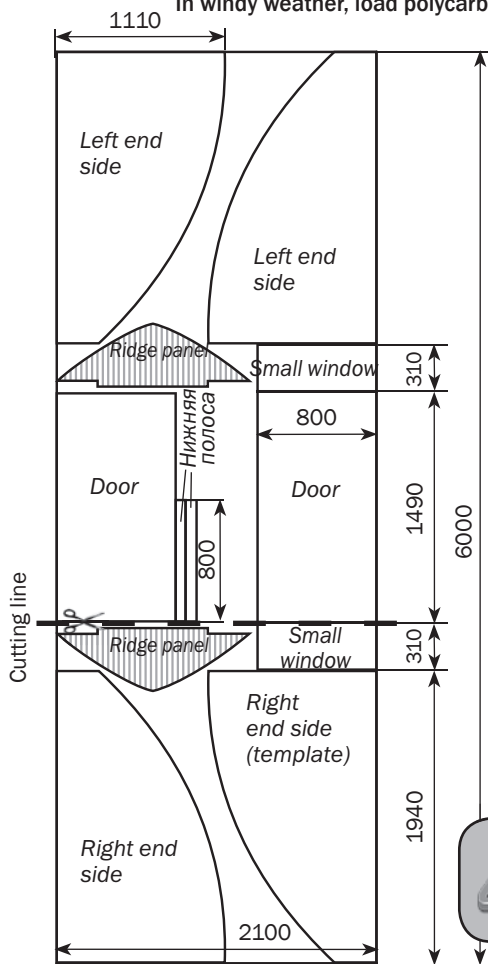

Fig. 13a
1. Cut a sheet for end coverage. To do this, cut a piece from polycarbonate sheet (see cutting lines on **Fig. 13a** or **13б**). To make a stencil of coverage, put the cut piece to assembled end of greenhouse and, without removal of protective film from polycarbonate, deposit stencil marking on the coverage sheet by elements **4н** and **4в** with allowance (**Fig. 14**). When marking a sheet, align its edge strictly with edges of
elements **7** and **8**, and top edge at 30 mm above bottom edge of element **5**. Cut a stencil. Mark the rest of sheet using the stencil in accordance with cutting scheme (**Fig. 13a** or **13b**).